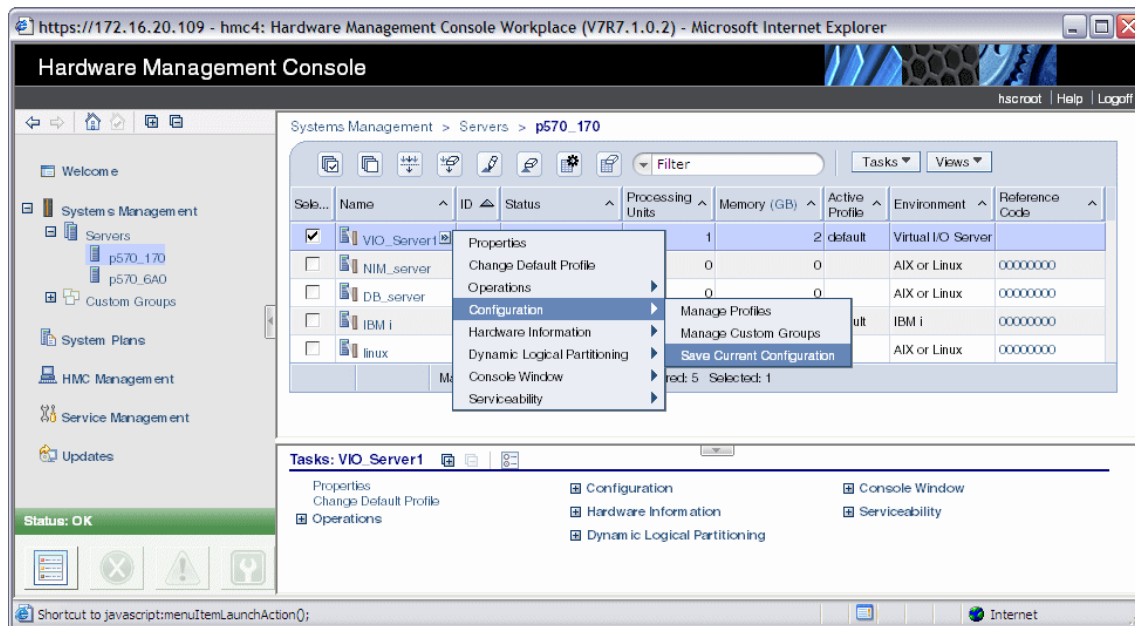

Figure 16-18 Save the Virtual I/O Server partition configuration
- f. Remember to update the partition profile of the Virtual I/O Server partition using the **Configuration** → **Save Current Configuration** option as shown in Figure 16-18 to save the changes to a new profile.